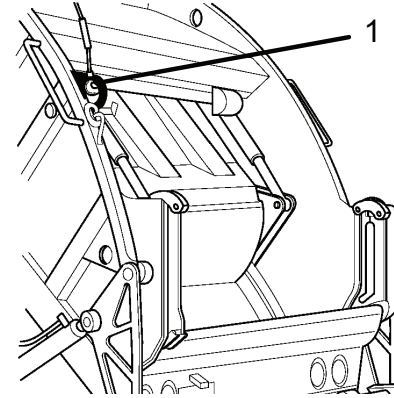

Figure 31
6. Unhook the cable from the container, then carefully retract and latch the hook to the cable ring provided (Figure 31). Retract the cable further, just enough to “snug” it securely to the ring.